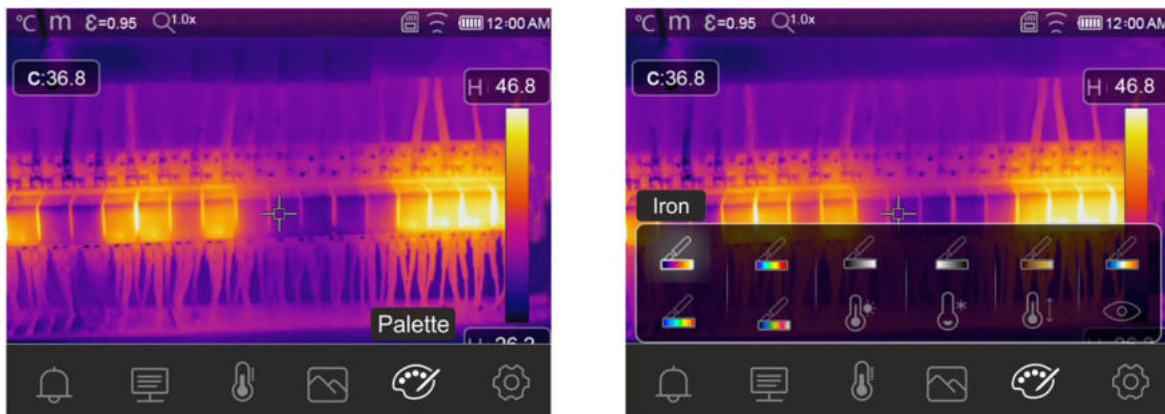

Fig. 39: Selection of colour palettes and isotherm lines' functions
2. Touch the icon “” to enter the “Palette” menu. The screen in Fig. 39 – right side appears on the display.